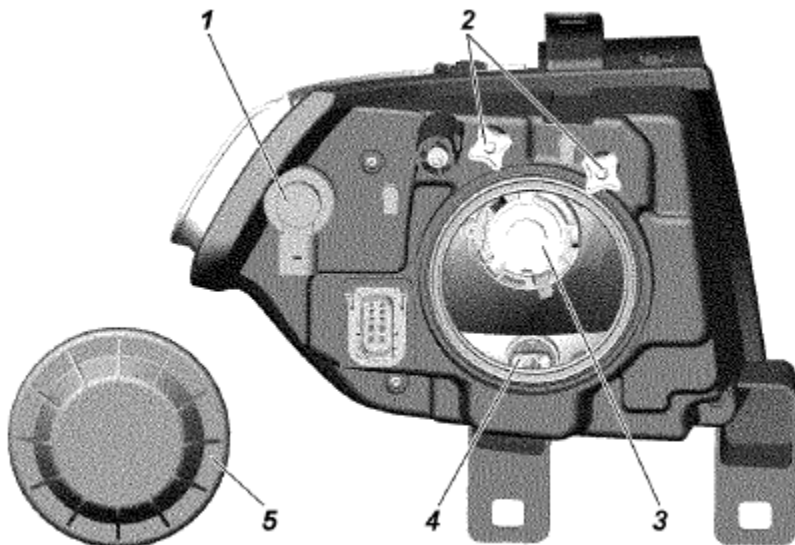

Fig. 9.29. Headlamp:
3. Switch on low beams and, covering each headlamp in turn, rotate adjusting screws 2 (Fig. 9.29) so that the cutoff line from E and E' points on the left coincides with line 1 and on the right coincides with lines 2 and 2' for the left and right headlamps respectively. Points of light edge fracture shall coincide with points E and E'.
Replacement of the headlight lamps. To change turn indicator lamps remove the connector from lamp holder 1 (Fig. 9.29), turn the holder clockwise (for the right headlamp) or counter-clockwise (for the left headlamp) and remove the holder with the lamp.